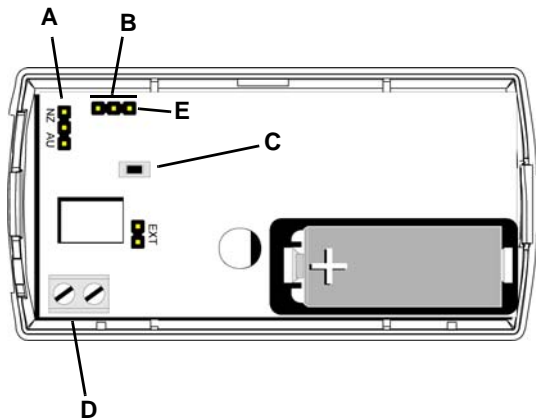

Figure 1 EN1752 components
- To ensure a proper connection, line up the arrow on programming header end of the ACC17XX programming cable with programming header pin 1, shown in figure 1.